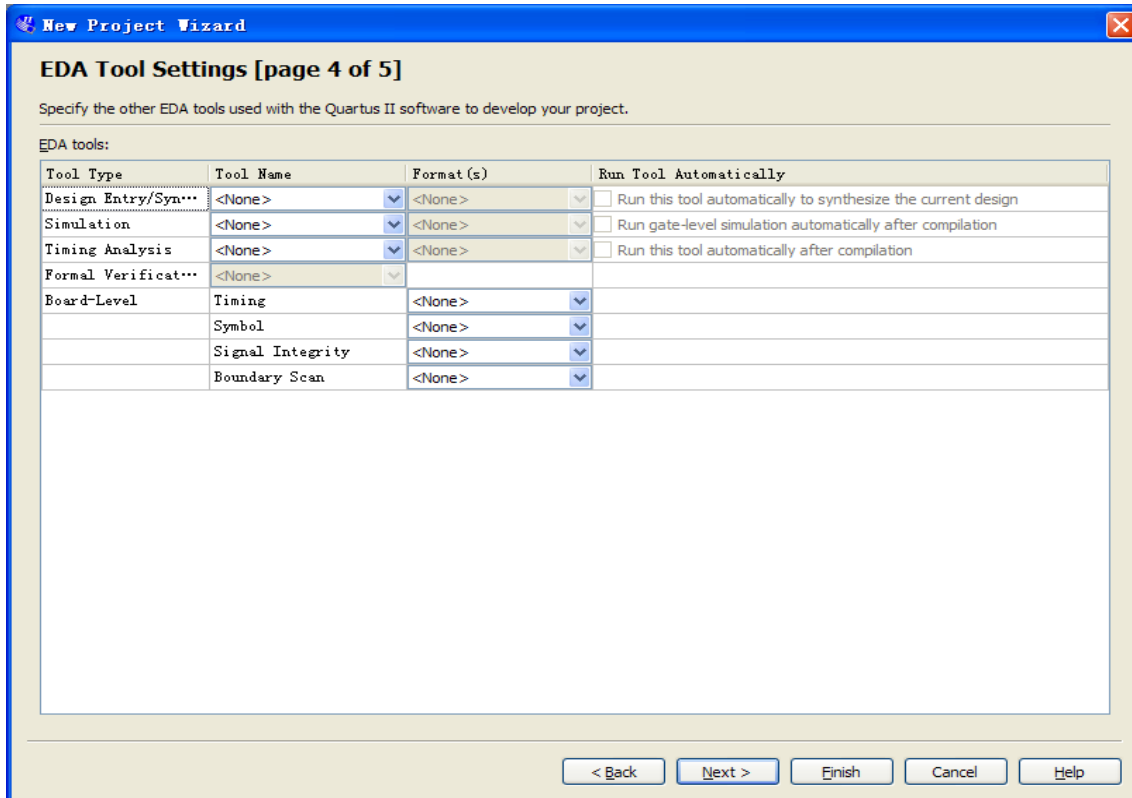

Figure 7-6 New Project Wizard: EDA Tool Settings [page 4 of 5]
3. Click **Next** to skip in **Add Files** window. In the **Family & Device Settings** window, we will choose device family and device settings appropriate for the DE0-Nano board. You should choose settings the same, as shown in **Figure 7-5**. Then click **Next** to get to the window as shown in **Figure 7-6**.